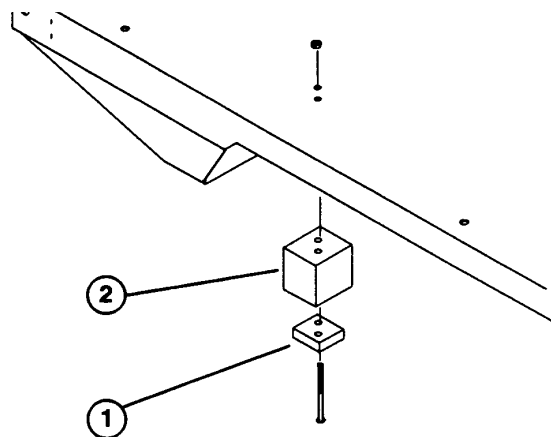

Figure 7
6. Remount the spacer blocks and new box spacers to the underside of the bed with the new, longer machine screws and locknuts (Fig. 7).